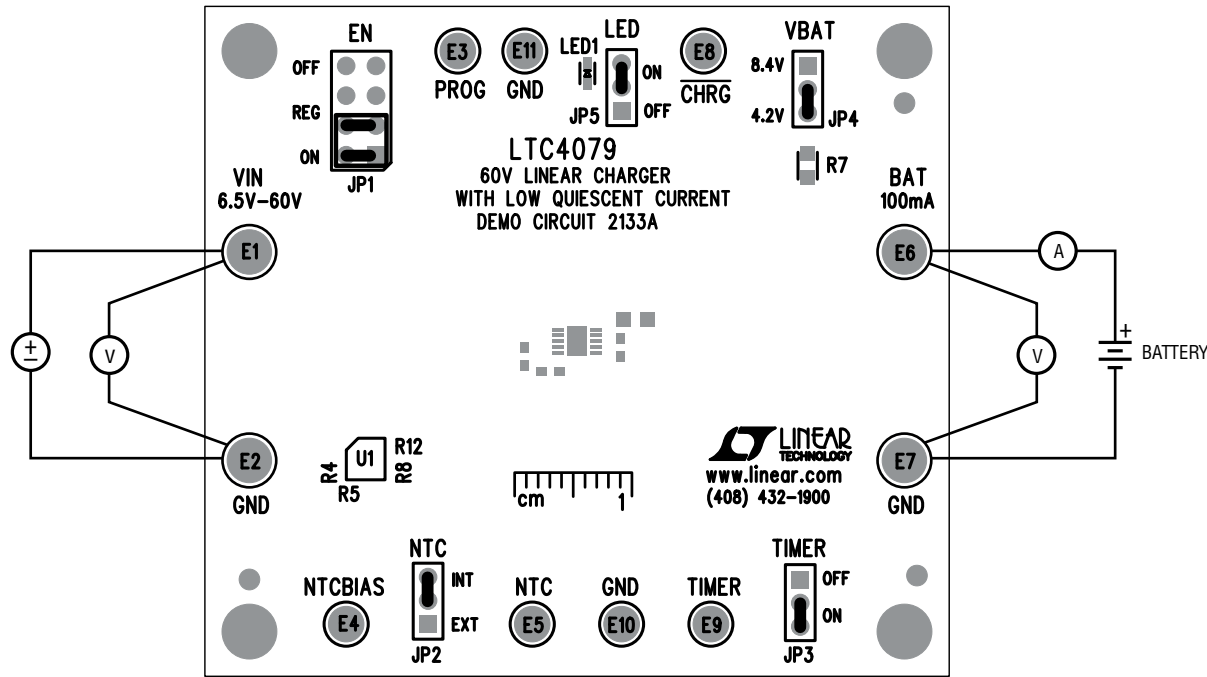

Figure 2. Proper Measurement Equipment Setup
Demonstration circuit 2133 is easy to set up to evaluate the performance of LTC4079. Refer to Figure 2 for proper measurement equipment setup and follow the procedure below.
2. With all power off, connect the input supply, battery, and meters as shown in Figure 2.